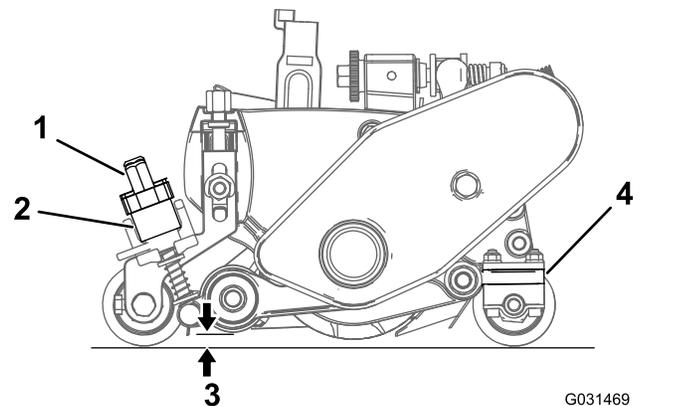

Figure 26
- A. Rotate the quick-up levers (Figure 26) to the OPERATING position (the handle points toward the front of the cutting unit).
- B. At the end of the groomer reel, measure the distance from the lowest tip of the groomer blade to the working surface (Figure 26). Turn the height-adjuster knob (Figure 26) to raise or lower the tip of the groomer blade to the desired height.